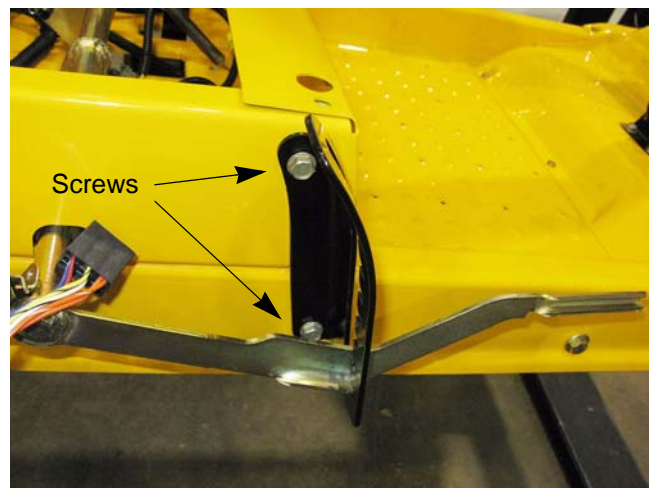

Figure 3.16
9. Remove the two screws that hold the deck lift indexing bracket to the seat box using a 1/2" wrench. See Figure 3.16.